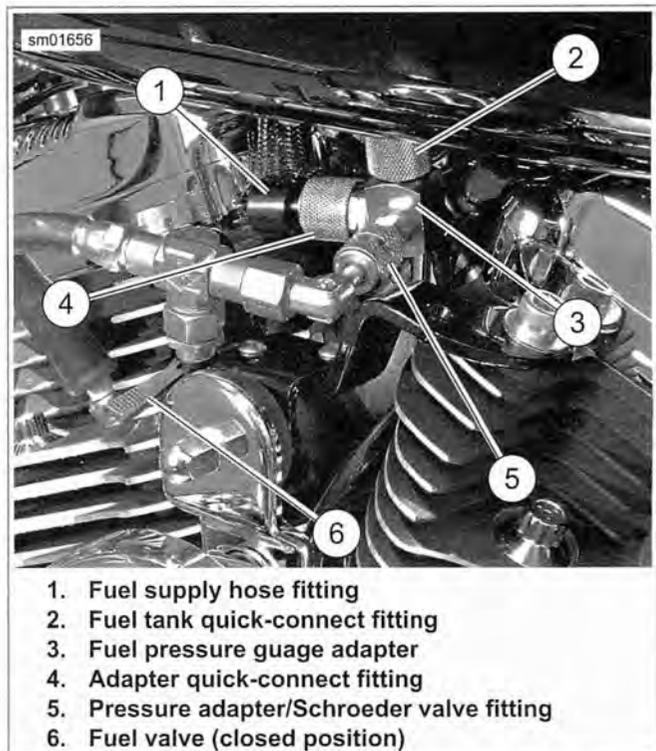

Figure 4-79. Assembling Adapter, Gauge and Fuel Supply Hose to Fuel Tank: All Models
- a. See Figure 4-79. Pull up on sleeve of fuel tank quick-connect fitting (2) and insert neck of the fuel pressure gauge adapter (3) into quick-connect fitting.
- c. In the same manner, connect vehicle's fuel supply hose fitting (1) to quick-connect fitting (4) on FUEL PRESSURE GAUGE ADAPTER.
4. See Figure 4-79. Verify that the fuel valve (6) and air bleed petcock on the fuel pressure gauge are closed.